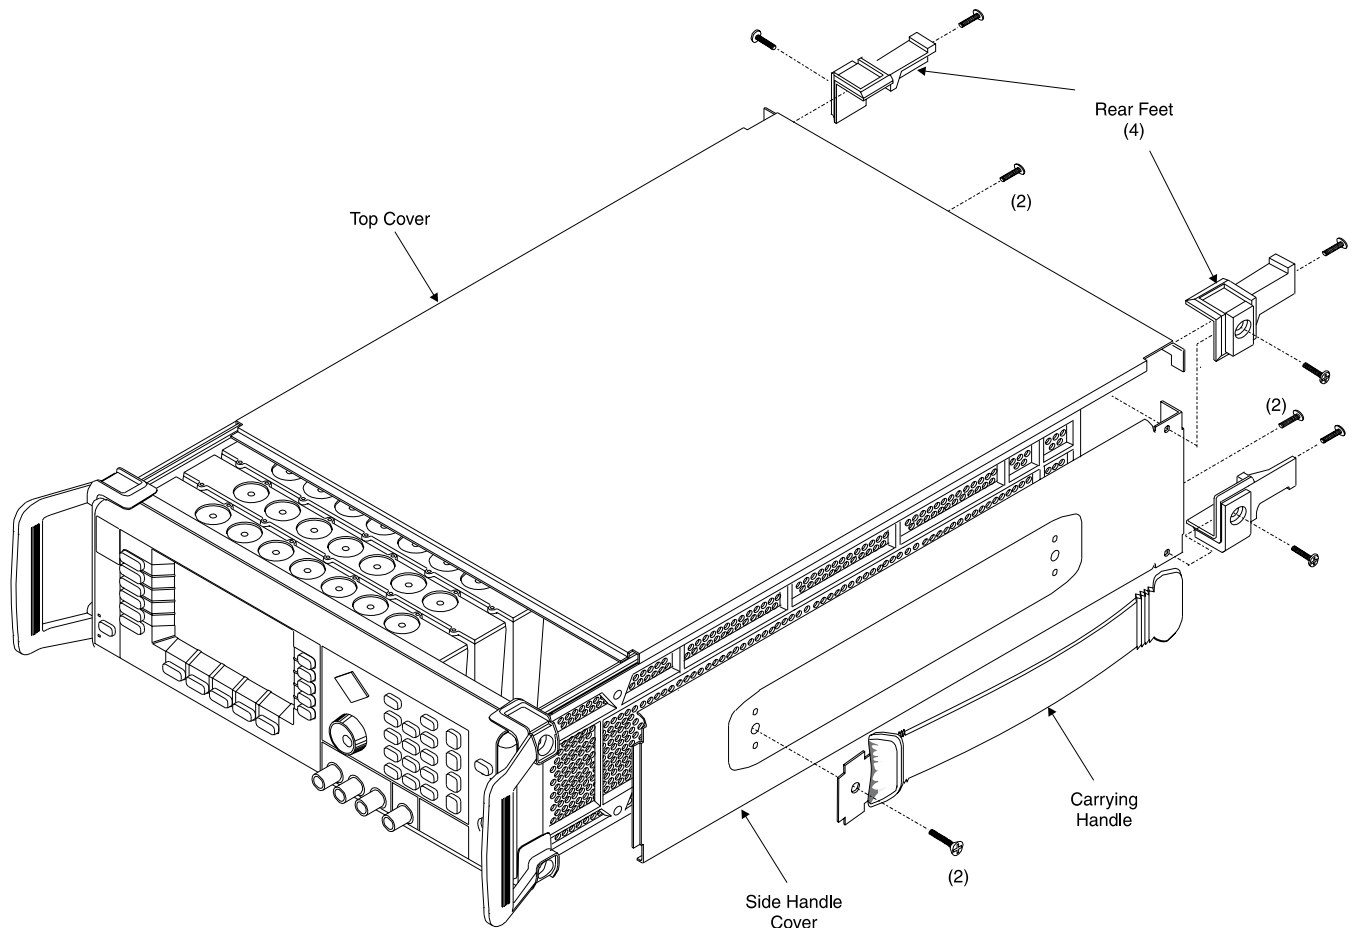

Figure 6-1. Chassis Covers Removal
Step 1 Using a Phillips screwdriver, remove the screws and the two feet from the top corners at the rear of the instrument (Figure 6-1).